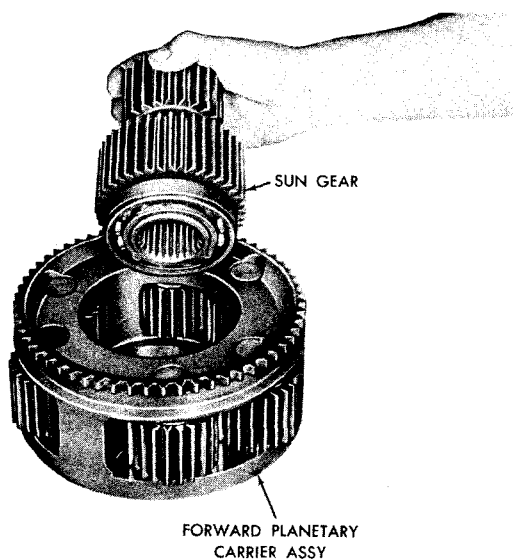

Fig. 7-6. Installing forward-and-reverse sun gear
(1) If the bearing was removed from the forward-and-reverse sun gear, install a new bearing (fig. 7-6). Install the sun gear and bearing into the forward planetary carrier assembly.